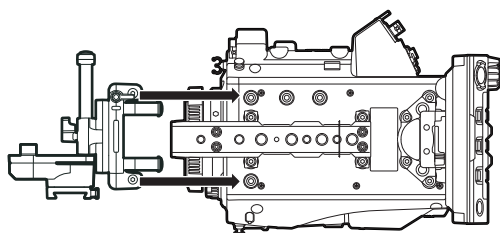

Fig. 1
- 1** Attach the slider unit to the viewfinder mounting holes on top of the camera using the two supplied screws. (Fig. 1)